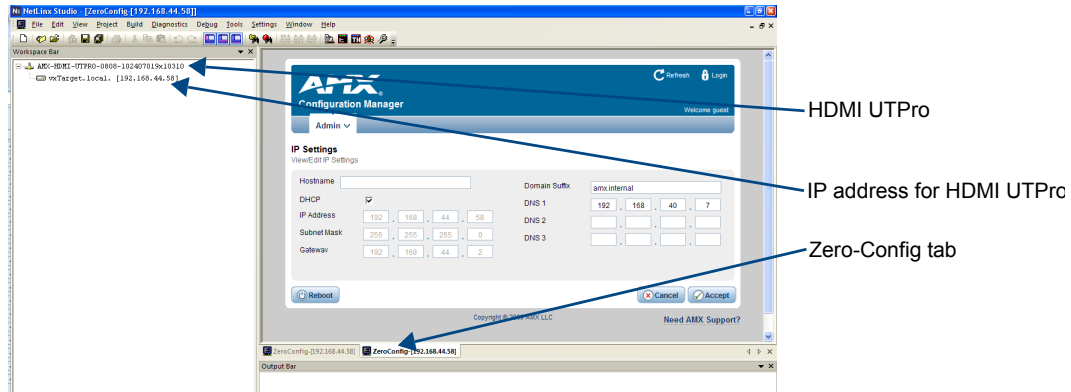

FIG. 42 Zero-Config list showing network with HDMI-UTPRO-0808
2. Right-click anywhere in the Workspace bar and select Refresh Zero-Config List to generate an initial listing of all Zero-Config devices that have been detected (FIG. 42).